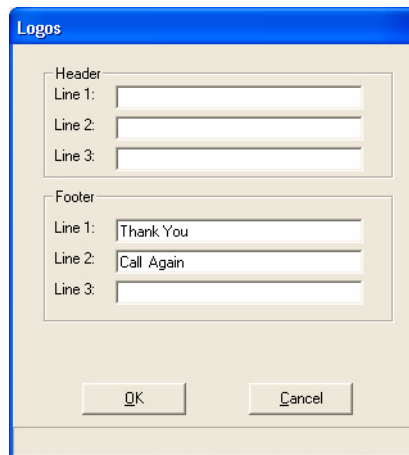

Figure 7-28 Logos Window
1. Access this window by selecting **System > IPT > Logos**. See Figure 7-28.